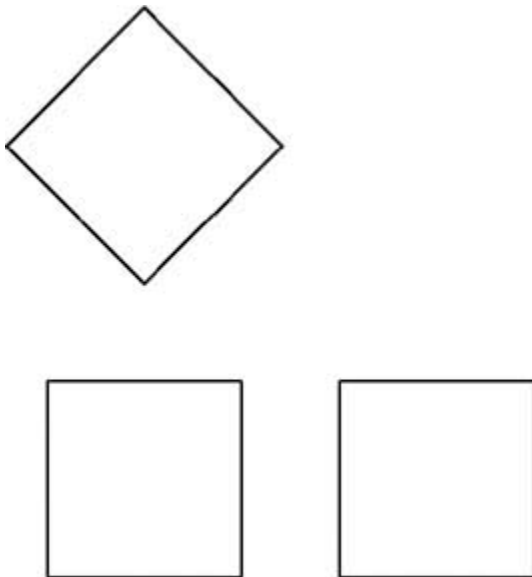

Figure 4-10
- 6 Select the **Close** option to close the square and end the **LINE** command. Your drawing should now resemble Figure 4-10.